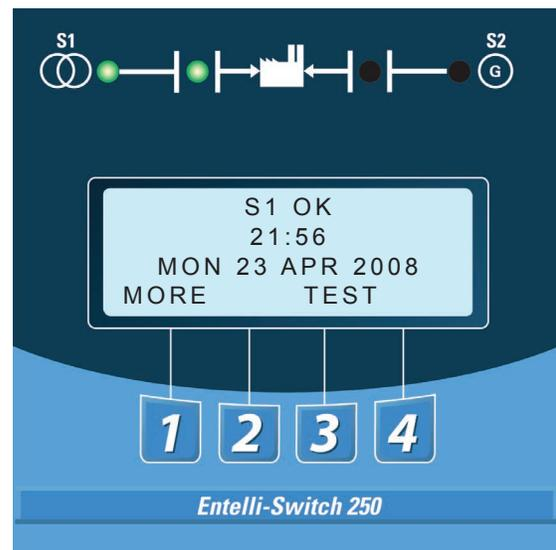

Figure 8
B. LCD and Keypad located on the exterior of the door (see figure 8)